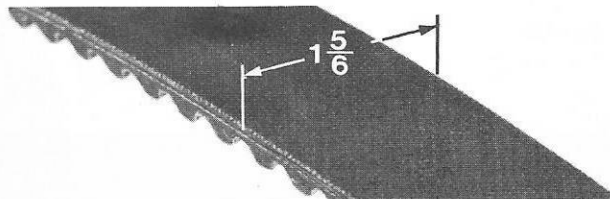

Fig. 57 Minimum Belt Width
- The width of the belt measures below $1 \frac{5}{16}$ inch (33 mm) (Figure 57).